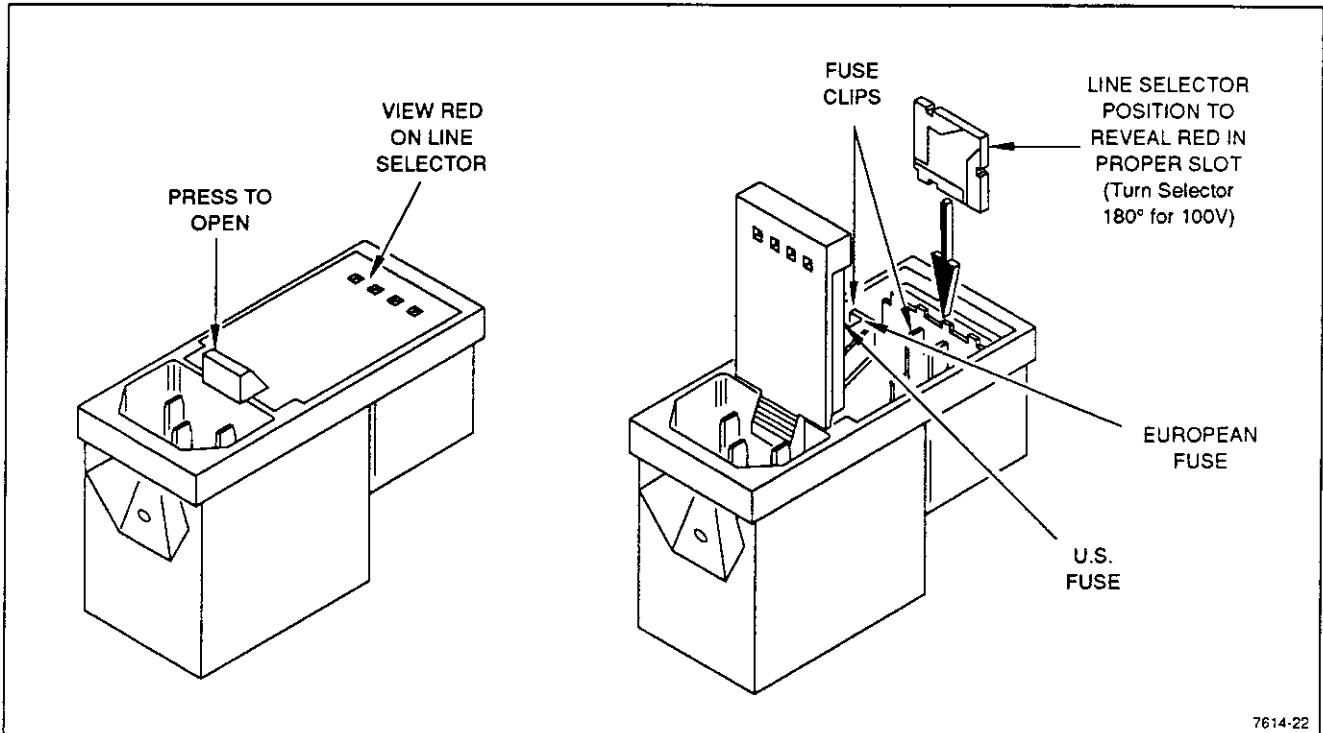

Fig. 2-1. Line voltage selection and main fuse replacement.
2. See Figure 2-1. To check or replace the main power fuse, press downward on the tab located on the Line Voltage Selector just above the power cord receptacle.
If the displayed voltage selection is incorrect or the fuse needs replacement, perform the following procedure. Refer to Figure 2-1. (The voltage is indicated by the red-marked window.)
2. See Figure 2-1. Press downward on the tab located on the Line Voltage Selector just above the power cord receptacle. This opens the selector door.